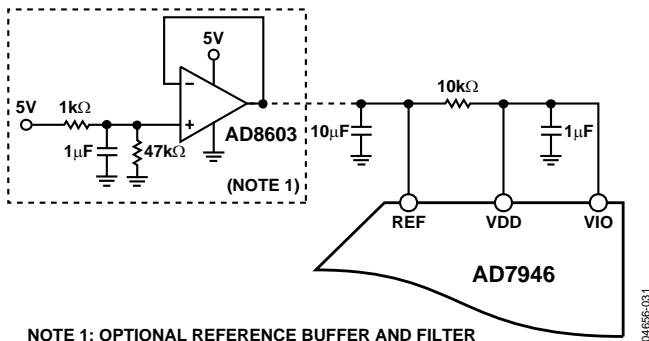

Figure 31. Example of Application Circuit
For simplified applications, the AD7946, with its low operating current, can be supplied directly using the reference circuit shown in Figure 31. The reference line can be driven by either:
- A reference buffer, such as the AD8031 or AD8603, which can also filter the system power supply, as shown in Figure 31.